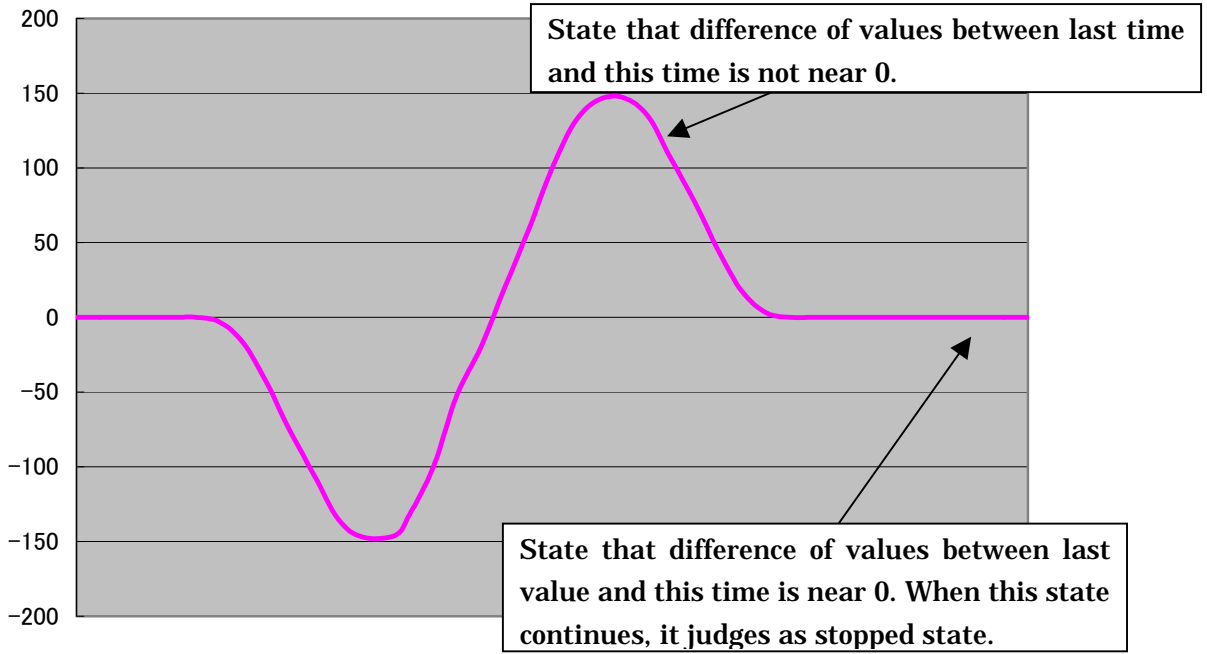

Figure 4 Judge a stopped state when moving a sensor rightward (Y-axis only)
So as not to judge slight wave turn-down (Fig.4) as "complete turn-down", (1) or (2) state continued for a while and digital value at that time changed significantly from last time comparison value, it can be judged that the wave turned down completely.